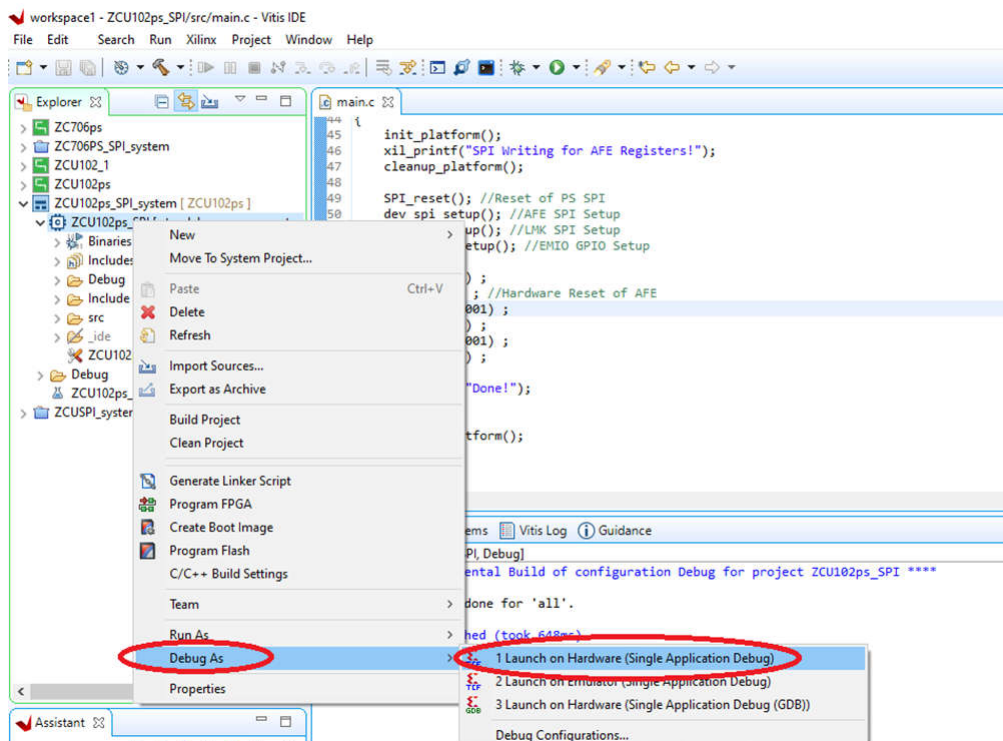

Figure 15-1. Debugging Application Project
- Right-click the project name and go to *Debug As* from the drop-down menu. Click *Launch on Hardware (Single Application Bug)* to run the debug (see Figure 15-1).